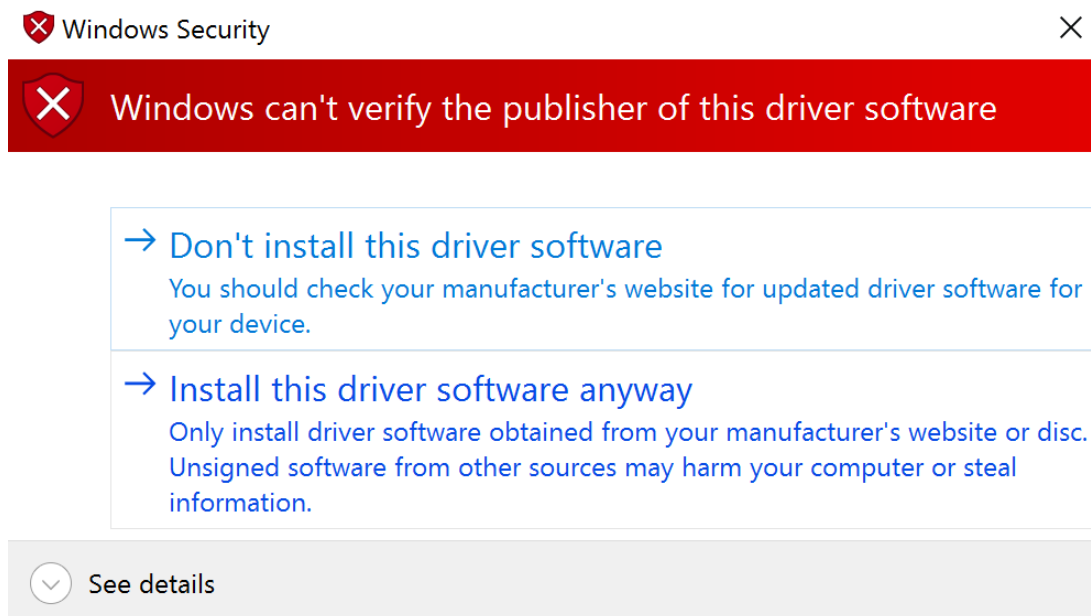

Figure 34. USB Driver Installation – Screen 7
8. There may be a warning that Windows cannot verify the publisher of this driver software, as shown in Figure 34. Choose to install the driver software anyway to proceed.